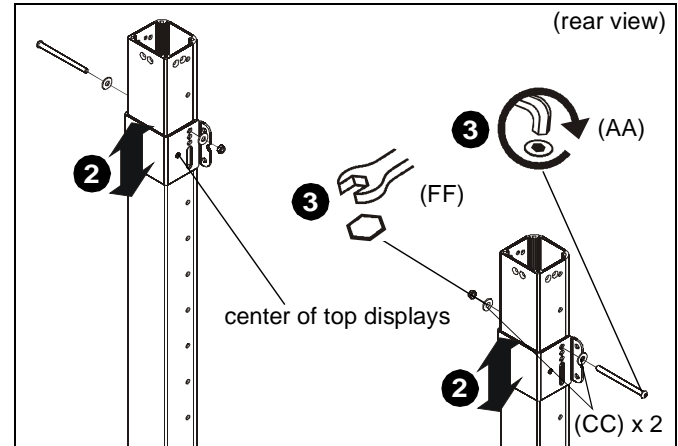

Figure 5
- IMPORTANT !** : Install all column add-ons (V), if applicable, prior to installing rails to columns.
2. Place clamp brackets (P) on columns in the position of where the center of the top displays will be on the cart with the diamond on the brackets being placed at the exact center location. (See Figure 5)
3. Use 5/16-18 x 4 1/2" button head cap screw (AA), two 5/16" washers (CC) and 5/16-18" lock nut (FF) to secure each clamp bracket (P) to column. (See Figure 5)